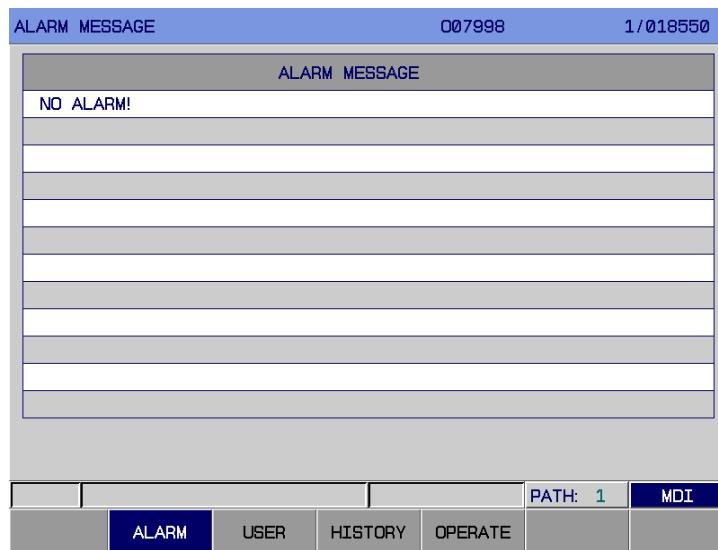

Fig. 3-7-1
to display the alarm page. There are 4 subpages: 【ALARM】 , 【USER】 , 【HISTORY】 and 【OPERATE】 , all of which can be viewed by the corresponding soft keys (See Fig.3-7-1 to Fig.3-7-4) . Whether the page is switched to alarm page when an alarm occurs can also be set by bit parameter No: 24#6.
1. Alarm page In <ALARM> page, press soft key 【ALARM】 to enter this page, which is shown in Fig.3-7-1.